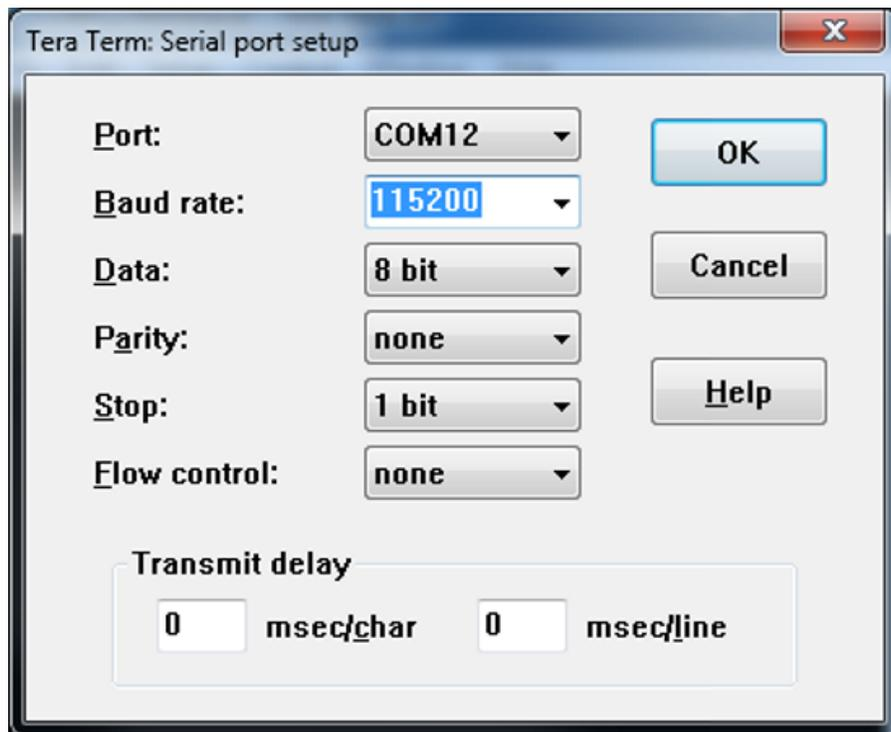

Figure 2. Tera Term Serial Port Setup
3. Open Tera Term on the PC, select the Serial option, and set Serial Baud Rate to 115200 as shown in Figure 2 to obtain the IP address.